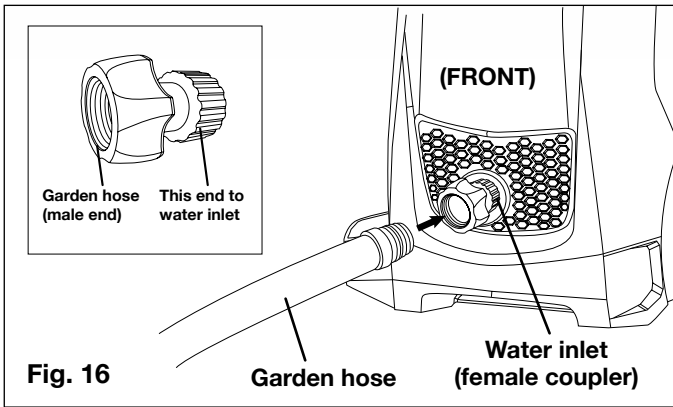

Fig. 16
12. Connect the garden hose adaptor (female coupler) to the water inlet of the pressure washer, then thread your garden hose (male end) into the garden hose adaptor (Fig. 16). The garden hose must have an internal diameter of at least 13 mm (1/2 in.) and must be reinforced. The water supply must be at least equal to the washer delivery capacity.